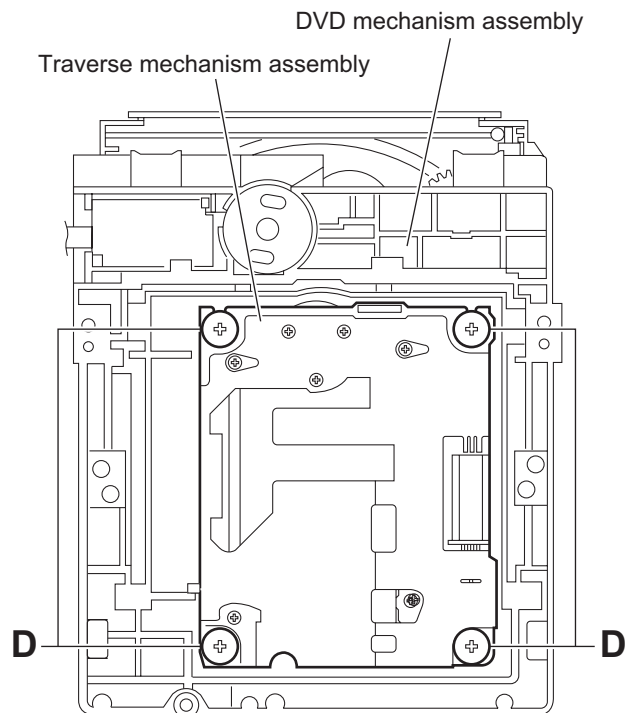

Fig.4
(4) Remove the four screws **D** attaching the traverse mechanism. (See Fig.4)